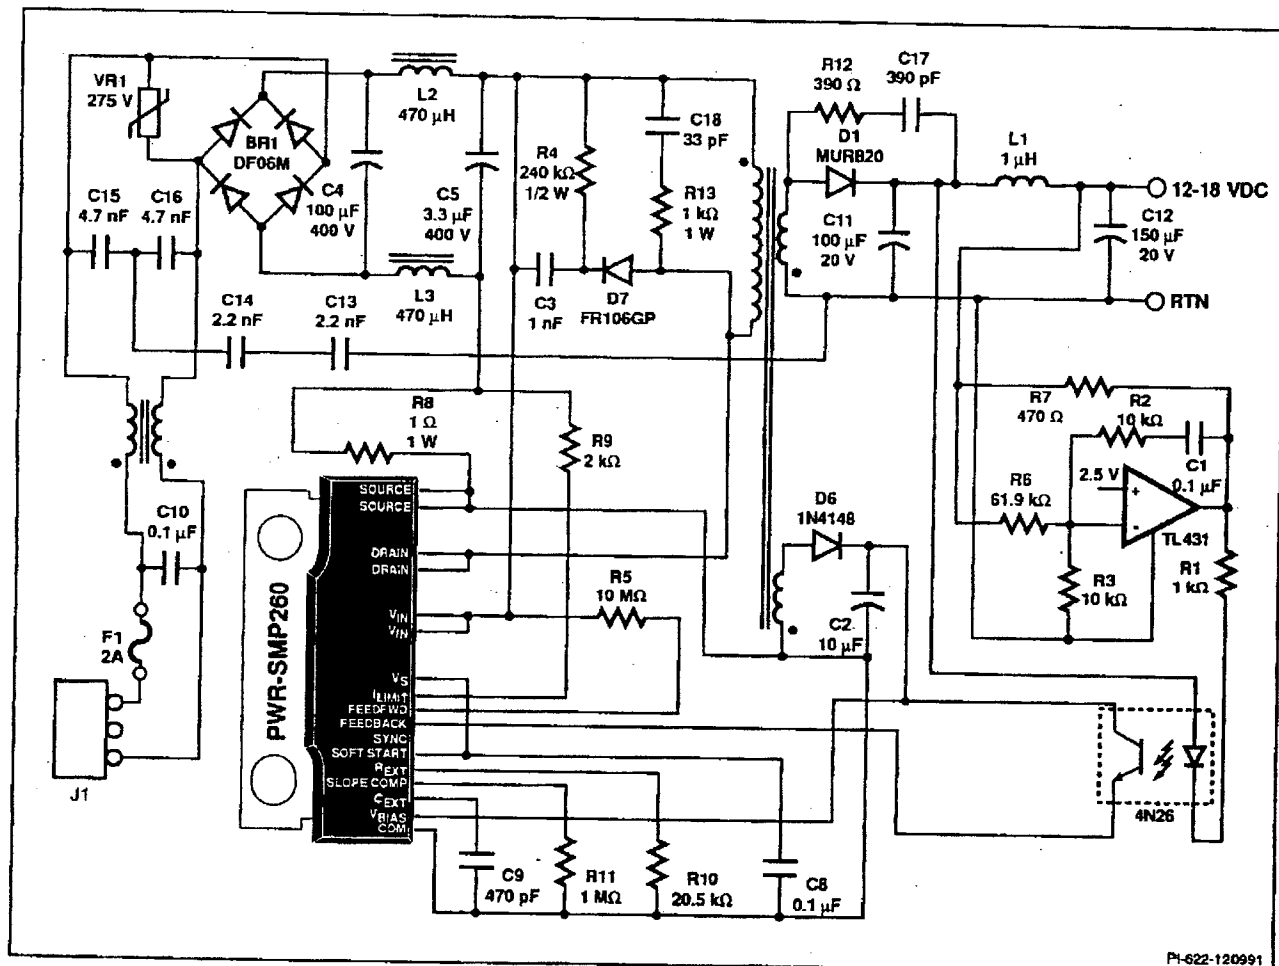
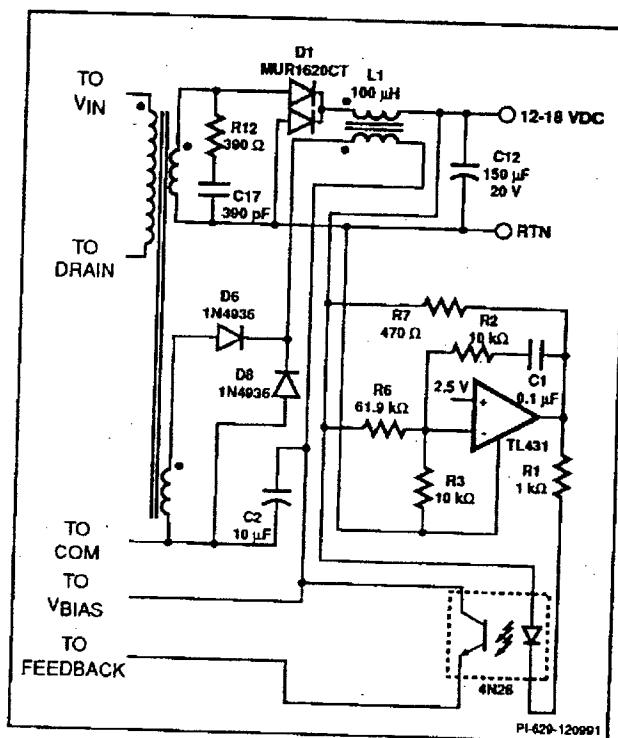

Figure 11. Flyback converter circuit using the PWR-SMP260.
Figure 12. Modifications to the secondary-side circuitry to form a forward converter.
Equation (3) describes the output voltage to LED current gain of the typical TL431 error amplifier circuits shown in Figures 11 and 12.
The schematic for the flyback power supply is shown in Figure 11. The Line and Load Regulation is $<0.1\%$. The same circuit can be designed to operate continuously over the universal input voltage range of 85 to 265 VAC_{RMS} by changing the transformer turns ratio. However, the increase in input voltage range reduces the output power to 30 W. The line, load
A forward converter can be constructed by replacing the secondary-side components of Figure 11 with those shown in Figure 12. The output inductor is common with the bias supply to insure minimum load operation.